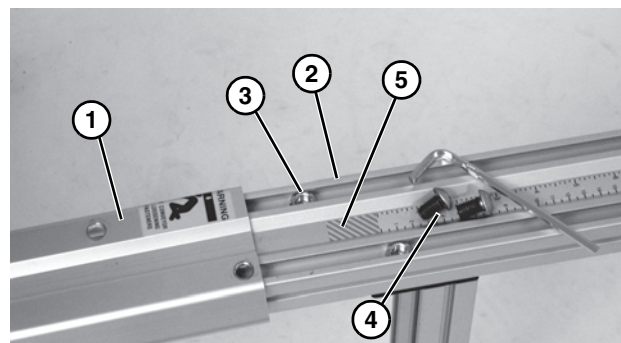

Figure 8
<p>Failure to secure screws (Figure 8, item 4) may cause conveyor sections to drop down causing severe injury.</p> <p>TIGHTEN SCREWS (Figure 8, item 4) AFTER ADJUSTMENT.</p>
- Slide boot (Figure 8, item 1) onto stand leg (Figure 8, item 2). Align hex nuts (Figure 8, item 3) and boot holes and attach boot with button screws (Figure 8, item 4). Tighten button screws to 150 in-lb (17 N-m). Repeat for opposite leg.
<p>Red warning area (Figure 8, item 5) must be under boot (Figure 8, item 1) after assembly.</p>